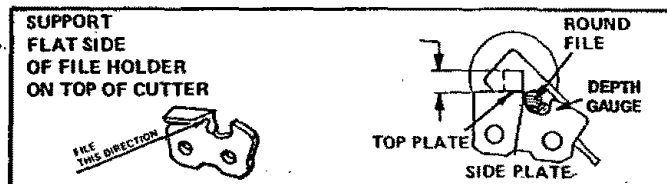

Figure 39
- a.) Position flat side of file holder (with 7/32" round file) on cutter top plate and depth gauge. Figure 39.
- e. Restore square edges to an uneven rail top by filing with a flat file. Figure 39.